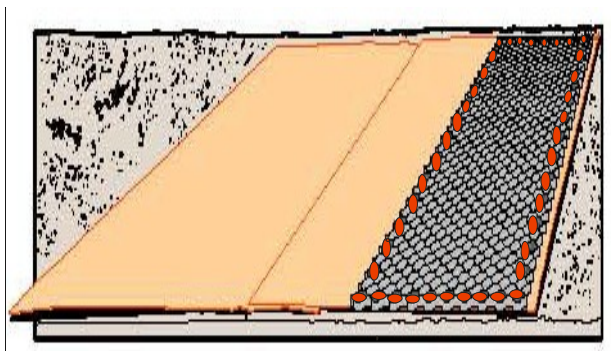

Figure 8 Infilling perimeter cells
- **Option 2:** Expand and manually fill selected perimeter cells prior to machine infilling. See Figure 8.